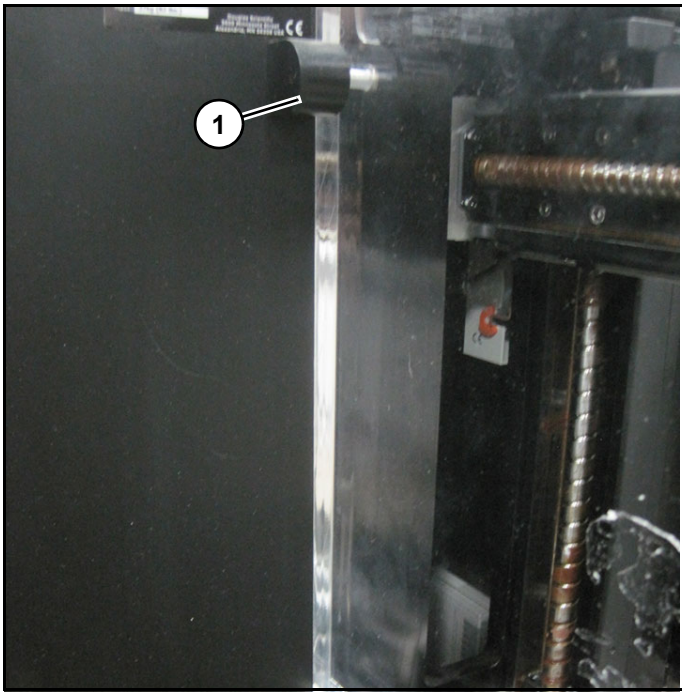

Figure 5
5. Align alignment pins (1) (Figure 5) with alignment sockets and push modules together until alignment pins snap into place.